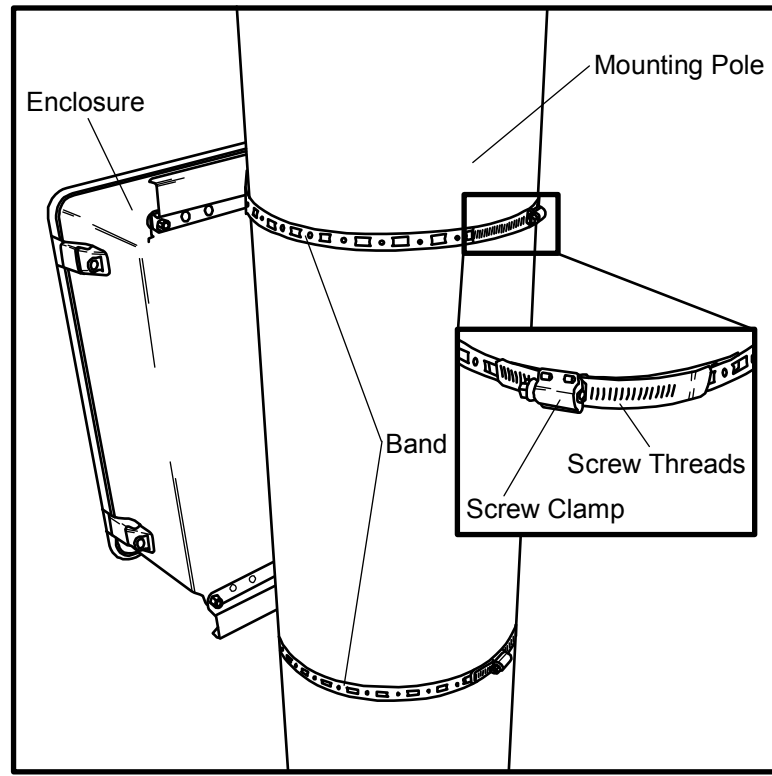

FIGURE 4-14. Securing the Enclosure to a Pole
5. Insert the tab on the end of the Screw Threads (Figure 4-14) into the hole at one end of the upper strap.